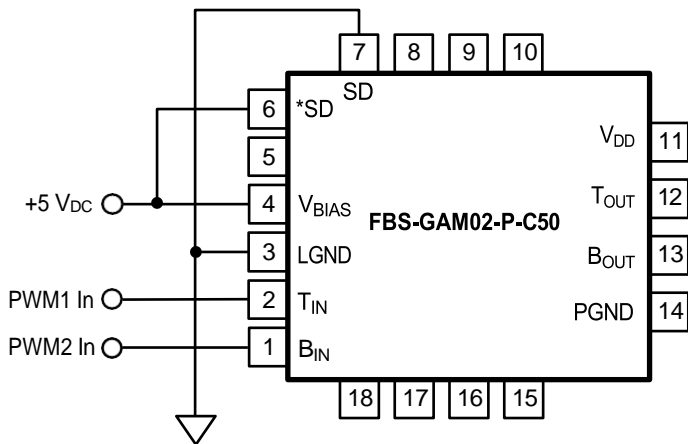

Figure 18. PG Protection Functions Disabled
The FBS-GAM02-P-C50 incorporates a Power Good (PG) sensing circuit that disables both the low- and high-side internal gate drivers when the +5 V_{DC} gate drive bias potential (V_{BIAS}) falls below an under-voltage threshold, typically 4.45 V_{DC}, or rises above a potentially-damaging V_{BIAS} over-voltage threshold level – refer to Figure 5 for the proper operational nomenclature and functionality versus the state of the V_{BIAS} power supply. During the time when the V_{BIAS} potential is outside of the pre-set threshold(s), the PG output (Pin 5) pin is logic low ("0"). Alternatively, when the V_{BIAS} potential is within the pre-set thresholds the PG pin is logic high ("1"). The logic condition of the PG pin may be sensed by a rad hard FPGA or Microcontroller/DSP in-order to determine when the power switches in the FBS-GAM02-P-C50 may be driven with a pulse-width modulated (PWM) input signal(s) at the B_{IN} and T_{IN} logic inputs. If either the under-voltage and over-voltage indication features are not required or desired, then these functions may be disabled separately by connecting the *SD (Pin 6) pin to V_{BIAS} (pin 4) for the UVLO or the SD pin (Pin 7) to LGND (pin 3) for the 0 V_{DC} indicator, as shown in Figure 18.